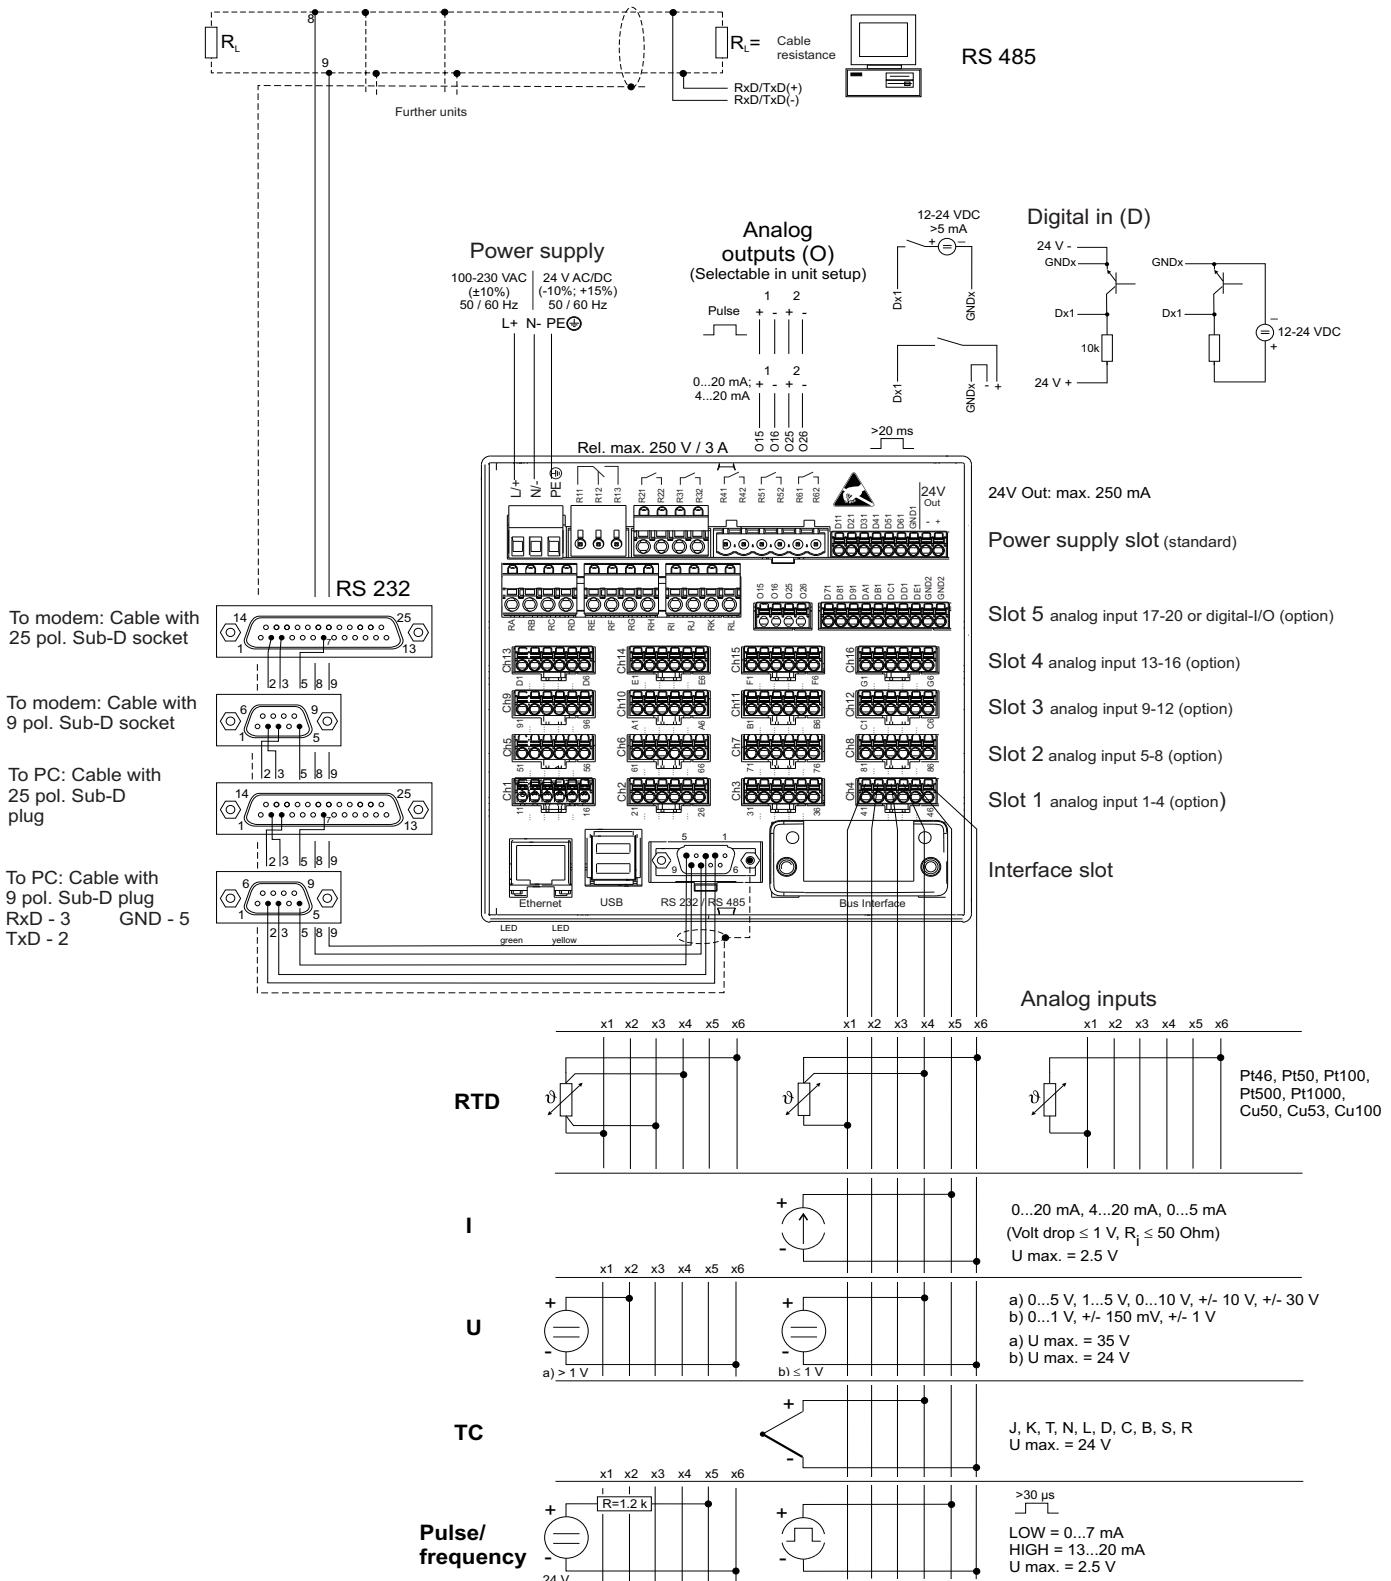

Fig. 3: Circuit diagram
2. Hold the unit horizontally and then hang the two jack screws into the openings (either as shown in figure 3 the upper opening on the left and the lower opening on the right side of the housing, or use the openings on top and bottom of the housing).